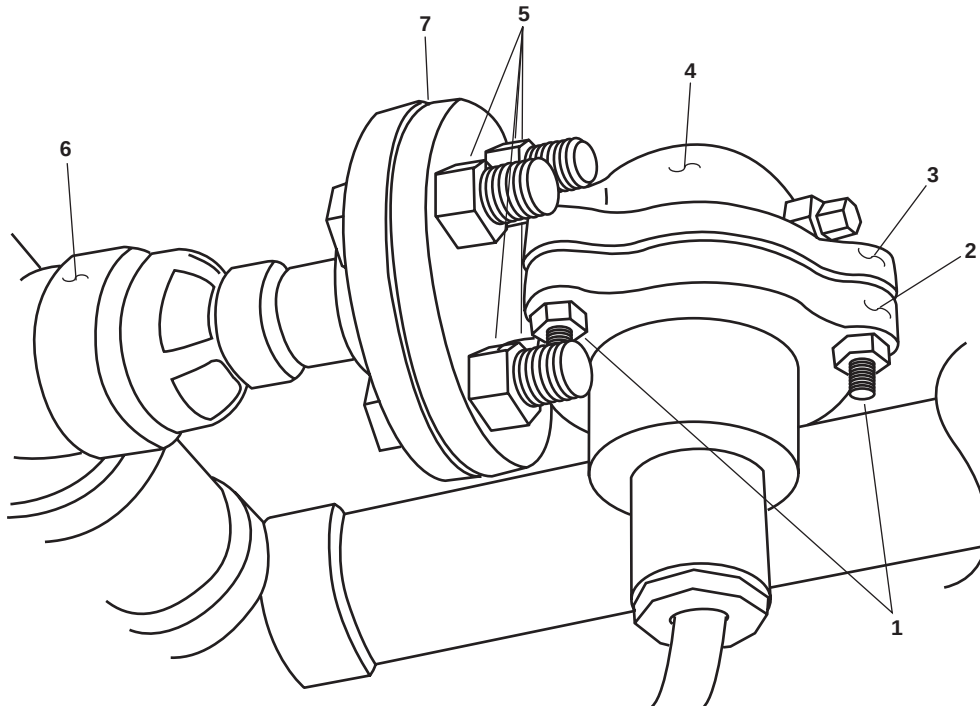

Figure 4. Arms Locker Water Switch Assembly
2. Remove the three nuts (figure 4, item 1) that secure the arms locker sprinkler water switch back plate assembly (figure 4, item 2).
3. Separate the arms locker water switch back plate assembly (figure 4, item 2) from the arms locker sprinkler water switch mounting plate (figure 4, item 3) to reveal the arms locker sprinkler water switch terminals.
4. Use a multimeter to check for voltage at the exposed terminals of the arms locker sprinkler water switch (figure 4, item 4). If voltage is present, ensure that the proper circuit breaker is set to OFF, locked out, and tagged out (FM 55-502). If no voltage is present, continue with the procedure.
5. Label and remove the wiring from the terminals connected to the arms locker sprinkler water switch (figure 4, item 4).
6. Remove the four bolts and nuts (figure 4, item 5) that secure the arms locker sprinkler water switch (figure 4, item 4) to the fire main (figure 4, item 6).
7. Remove the arms locker sprinkler water switch (figure 4, item 4) and gasket (figure 4, item 7). Discard the gasket.
1. Install the arms locker sprinkler water switch (figure 4, item 4) with a new gasket (figure 4, item 7), securing them with the four bolts (figure 4, item 5).
2. Install the wiring to the terminals of the arms locker sprinkler water switch (figure 4, item 4) using the labels from step 5 of Removal as a guide. Remove the labels.
3. Install the arms locker sprinkler water switch back plate assembly with the cover (figure 4, item 2), and secure it with the three bolts (figure 4, item 1).
6. Check for leaks at the new gasket (figure 4, item 7).